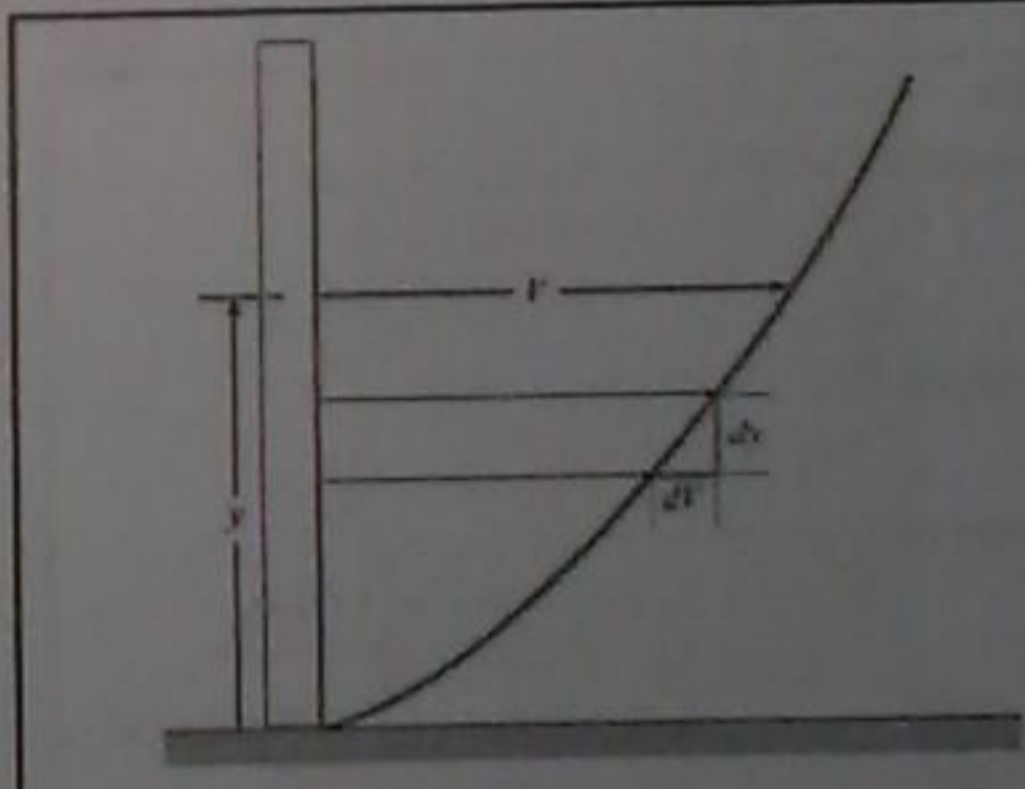

Figure 2.2
(14) The term  $dV/dy$  represents the **velocity gradient** (or change of velocity with distance from the wall), where  $V$  is the fluid velocity and  $y$  is the distance measured from the wall, see Figure 2.2. The velocity distribution shown is characteristic of flow next to a stationary solid boundary, such as fluid flowing through a pipe. **Several observations:** First, the velocity gradient at the boundary is finite. The curve of velocity variation cannot be tangent to the boundary because this would imply an infinite velocity gradient and, in turn, an infinite shear stress, which is impossible.